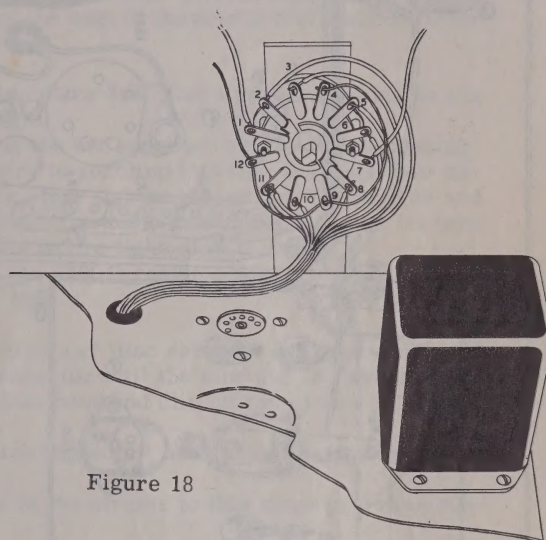

Figure 18
- (✓) Connect a line filter choke from the 1-lug terminal strip on the chassis center brace (NS) to pin 1 of the rear apron octal socket (S). (See Pictorial 10, Page 49.)
- (✓) Connect a .005 μ fd disc ceramic capacitor from the single lug (NS) to the adjacent ground solder lug (S).
- (✓) Connect a blue wire from the terminal strip lug (S) to terminal 1 of the PLATE switch M (S). Run the wire against the chassis center brace.
- (✓) Locate the meter switch and identify the switch terminal numbers by referring to Figure 18. Use #20 bare wire to tie switch terminals 4, 9 and 12 together and leave 5" of wire extending from terminal 12. Solder these connections.
- (✓) The switch may now be temporarily mounted so that its wiring can be completed. For convenience, a special switch bracket has been included to facilitate switch wiring before the panel is mounted. The bracket is shown in Figure 18. Temporarily mount one end on the audio gain control and mount the switch through the hole in the other end.
- (✓) Two violet leads on switch terminal 11 (S).
- (✓) Gray lead on switch terminal 10 (S).
- (✓) White lead on switch terminal 8 (S).
- (✓) Yellow lead on switch terminal 6 (S).
- (✓) Brown lead on switch terminal 5 (S).
- (✓) Red lead on switch terminal 3 (S).